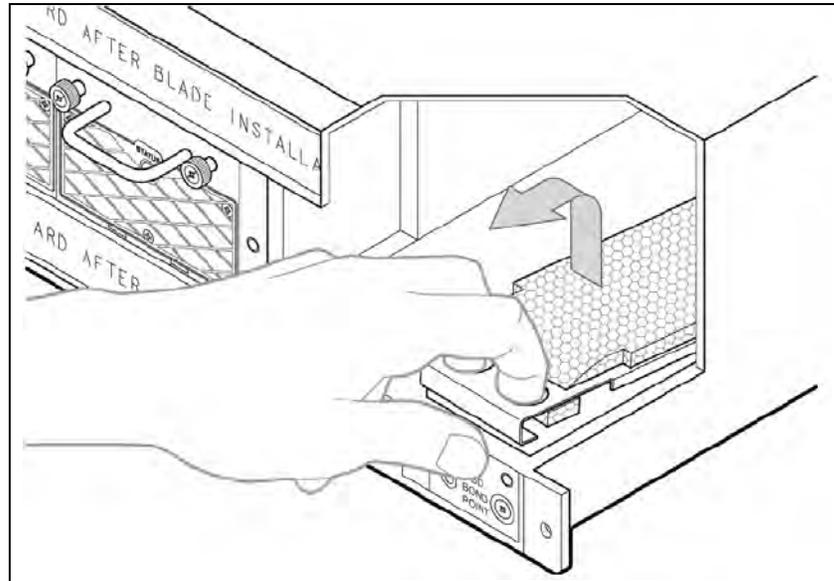

Figure 5.12 - Bottom Air Filter Removal
4. Insert two fingers in the round holes at the front of the bottom air filter frame and pull the frame upward and out of its compartment (**Figure 5.12**). If you cannot remove the frame with your fingers, you can also use a tool such as a screwdriver.